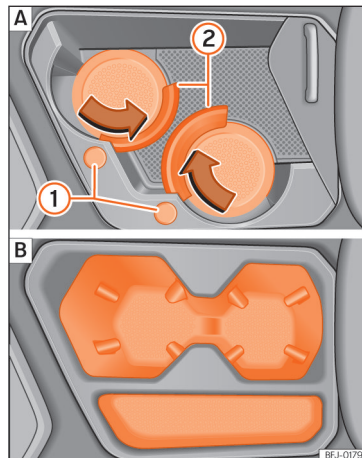

Fig. 141 In the front part of the centre console: **A** cup holder (variant 1); **B** cup holder (variant 2).
Depending on the features, there are two drink holders in the front part of the centre console» **Fig. 141**.
To *adapt* the drink holder to the size of the container, press the corresponding button » **Fig. 141** ①. The fastening ring ② opens.